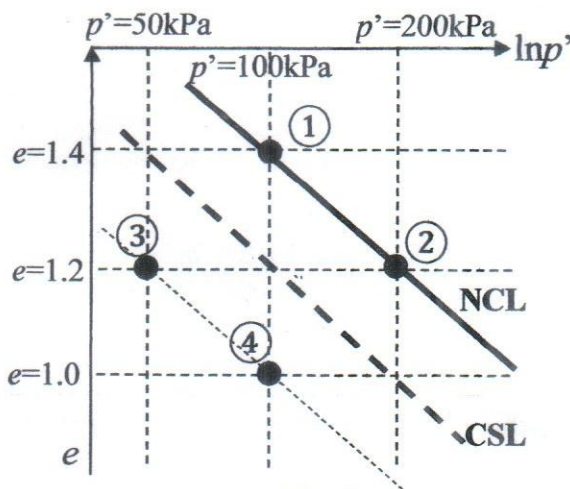

Fig. 1
- 1(a) Derive the equation of principle of virtual work. Formulate the work done for discontinuous surface (cracks) using the derived equation of principle of virtual work and Mohr-Coulomb failure criteria. (20)
- (b) Briefly describe the limitations of upper bound and lower bound theories in solving geotechnical problems. (5)
- 2(a) Define liquidity index. What type of soil should be used as a subgrade material? (4)
- (b) Calculate ultimate bearing capacity of a strip foundation for the ground, where undrained shear strength is 100 kPa and angle of internal friction is zero, after deriving the respective equation by upper and lower bound theories. Neglect the unit weight of the ground. (10)
- (c) The thickness of a NC clay layer is 4.0 m, void ratio is 0.95, primary compression index is 0.30, and secondary compression index is 0.025. An effective pressure of 200 kPa is applied at the center of the clay layer where the initial stress was 100 kPa. Calculate the total consolidation settlement of the clay layer 15 years after the completion of the primary consolidation where the primary consolidation finishes by 3 years. (11)
- 3(a) Answer the following questions for points ① to ④ shown in Fig.1 (18)